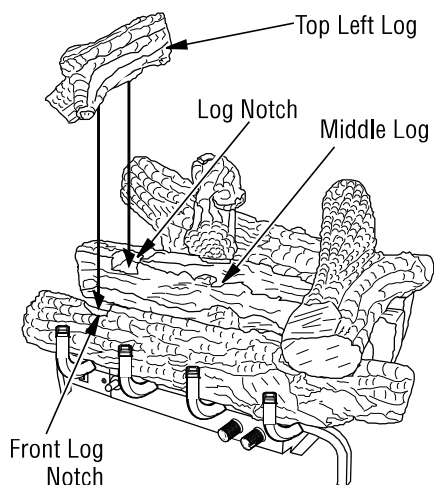

Figure 26 - Installing Top Left Log
6. Place the top left log onto the middle and front logs as shown in **Figure 26**. Make sure to match up the shape on the bottom of the top left log with the notches in the middle and front logs.